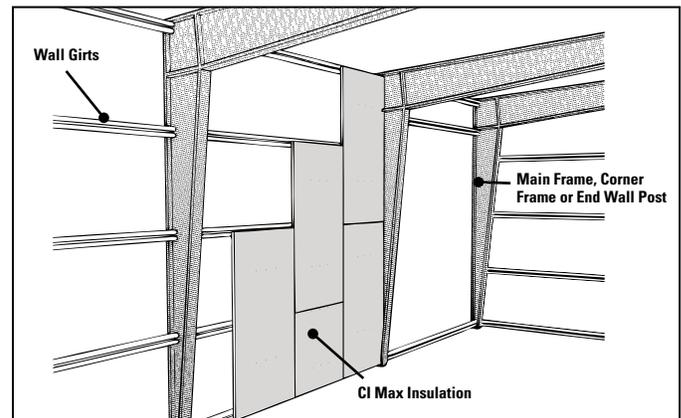

Figure 3. CI Max boards on interior of pre-engineered metal building
- Use maximum board lengths to minimize number of joints. Locate joints square to girts and center end joints over girts. Provide additional framing as necessary. Stagger each course at least one girt. See Figure 3.